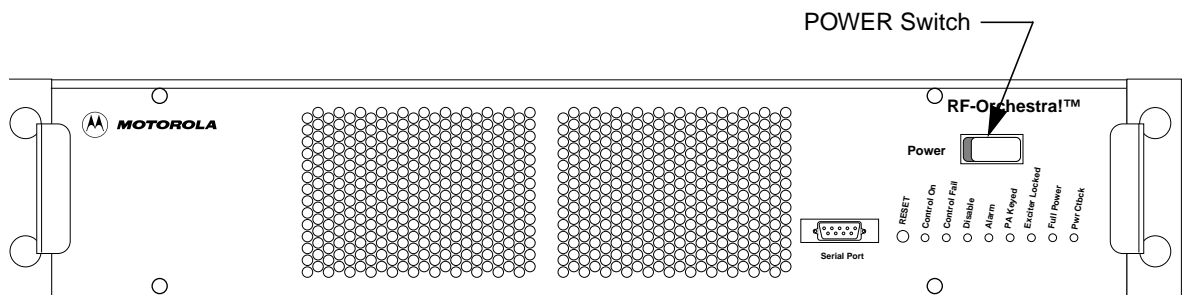

Figure 6-10: RF-B! Transmitter Controller Front Panel
1. Set the RF-B! transmitter controller Power switch to OFF (O) (see Figure 6-10).